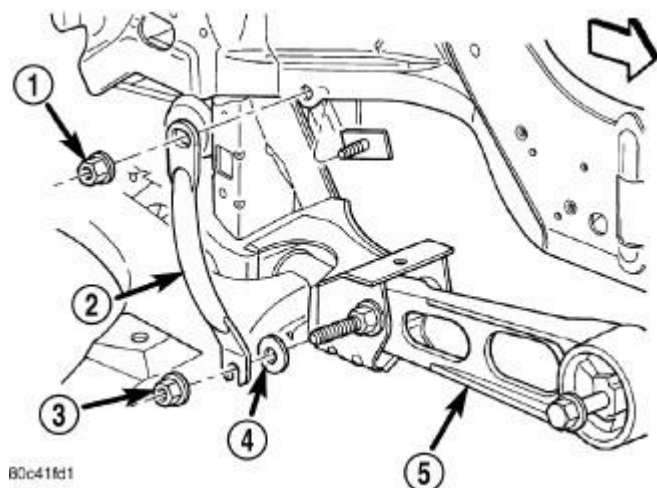

Fig. 184: Pencil Strut
3. Remove pencil strut (2). See **Fig. 184** .
4. Remove bolts attaching lower torque strut (5) to crossmember and strut bracket.
5. Remove lower torque strut (5).